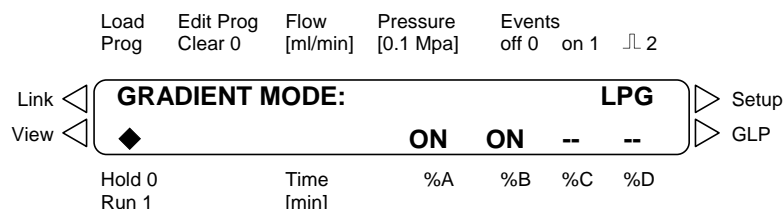

Figure 4 Example for a gradient setup with solvents A and B in all programs
8. By pressing the ➤ key the cursor moves back onto the diamond icon. Now the display should look similar to the graphics in Figure 4.